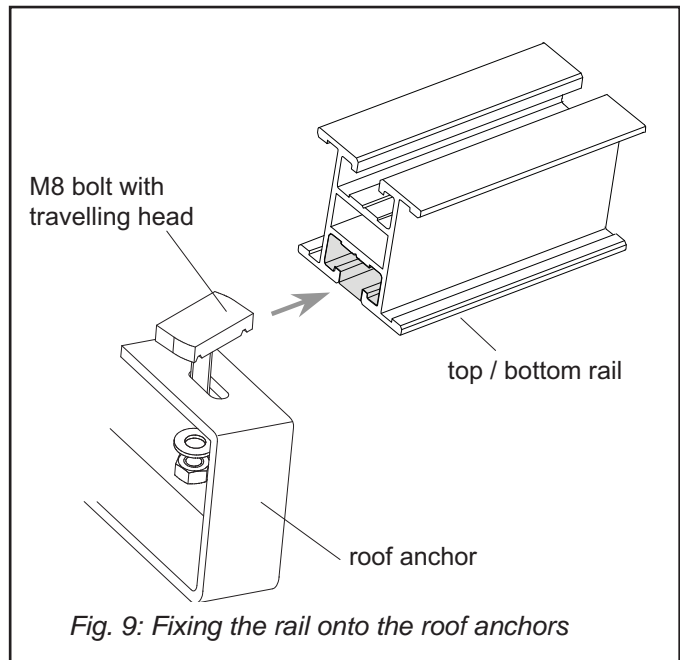

Fig. 9: Fixing the rail onto the roof anchors
- Then mount the U-shaped bracket (Fig. 9) on the bolt, between two nuts with a split lock washer.
- Align the travelling screw head (Fig. 9) with the horizontal rail and shift the rail onto it, or shift the bolts into the rail first and fix to the anchors. Use serrated lock washers to fix the nuts.